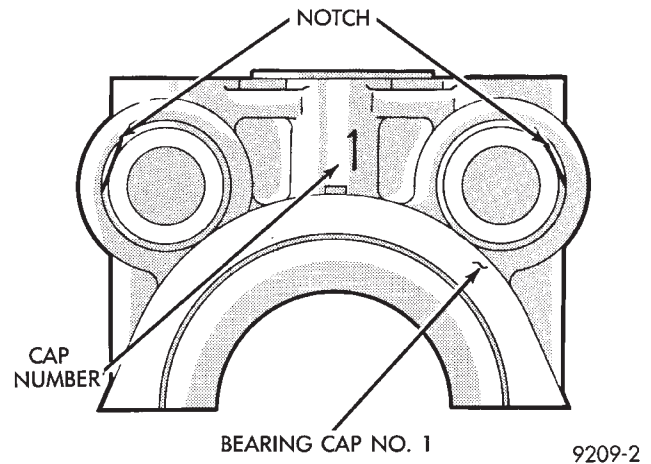

Fig. 9 Number One Camshaft Bearing Cap
Identify number one bearing cap number one and number four caps are similar (Fig. 9).
(2) Install rocker shafts into bearing cap number one with end notches positioned as shown in (Fig. 9) that the machined portion of the rocker shaft is facing down.
(3) Insert attaching bolts to retain assembly.